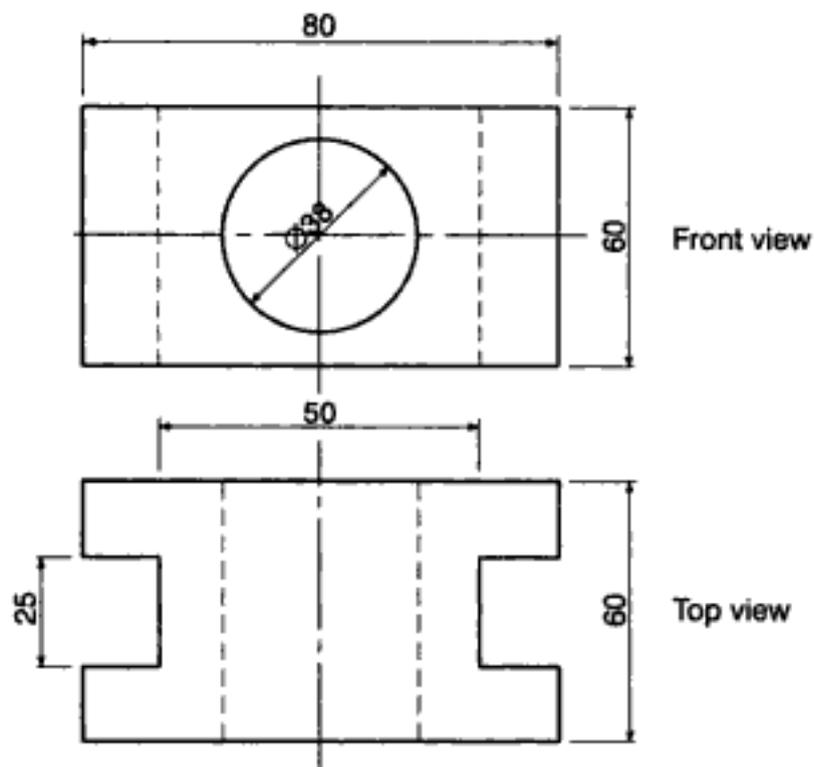

Fig 6.21
- 1 The object in fig 6.21 is shown in third-angle orthographic projection. Follow the steps discussed above to draw this object isometrically. The scale used will be full scale. Do not insert dimensions and do not copy the orthographic views. Show only the final drawing.
- 2 The front view and left view of an object are given in first-angle orthographic projection, as shown in fig 6.21. Do not copy these two views, but simply draw the final isometric view. Do not insert dimensions. Scale 1:1.